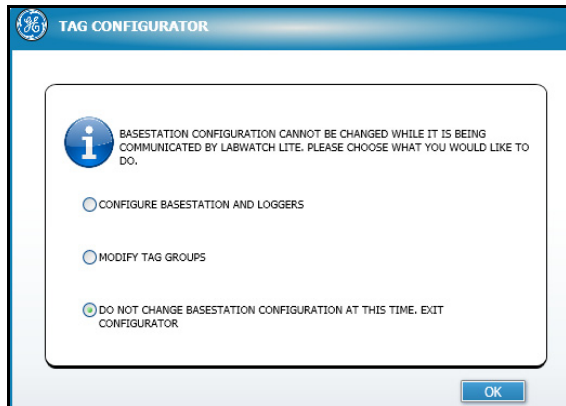

Figure 100: Tag Configurator Window
2. Click on the **Configurations** tab and then on the **Tag/Group Config** option. The Tag Configurator window (Figure 100 below) opens.